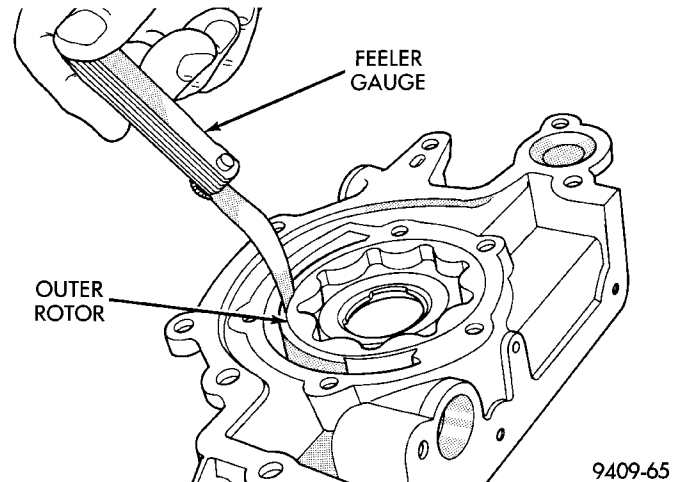

Fig. 104 Measuring Outer Rotor Clearance in Housing
(5) Slide outer rotor into pump housing, press to one side with fingers and measure clearance between rotor and housing (Fig. 104). If measurement is 0.39 mm (0.015 inch.) or more, replace housing only if outer rotor is in specification.